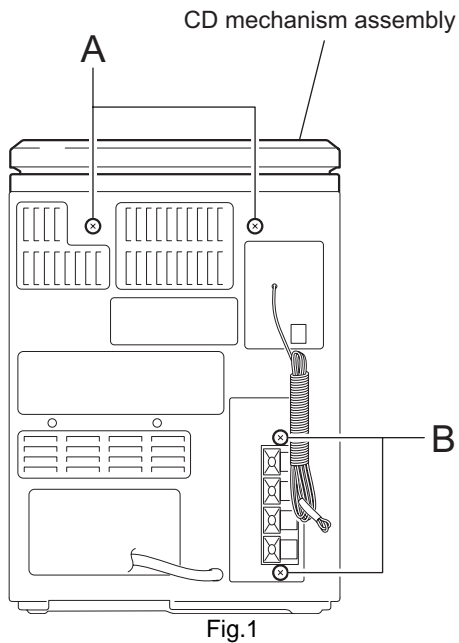

Fig.1
3.1.1 Removing the Front panel assembly (See Fig.1 ~ 5)